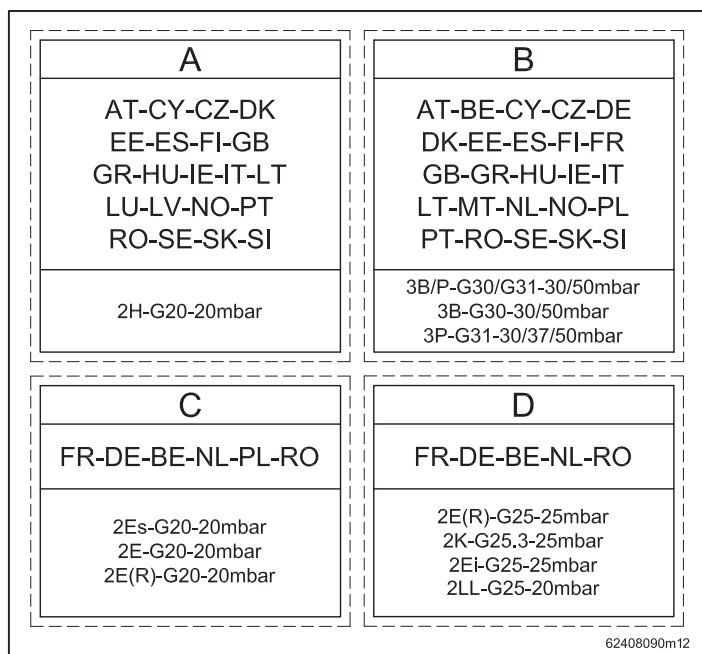

Figure 6-5 – Labels certifying the new boiler status
- 19.- Apply the sticker certifying the appliance's new setting onto the front casing of the boiler in place of the label showing the old status (see figure 6-5): apply label "B" if the boiler has been converted from natural gas to LPG; apply label "A" if the boiler has been converted from LPG to natural gas.